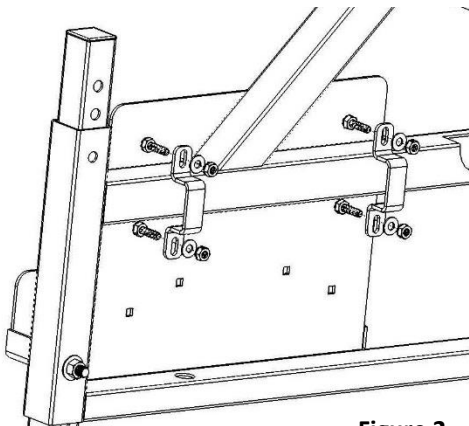

Figure 2
STEP 2: Attach the computer mount to the table using the clamp brackets, flat washers and Keps nuts. (See Figure 2)